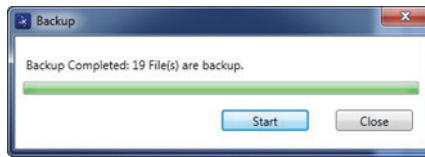

Figure 6-32 The Backup dialog box (complete)
- 6. When the backup has been completed, click **Close** (see Figure 6-32 on page 332).